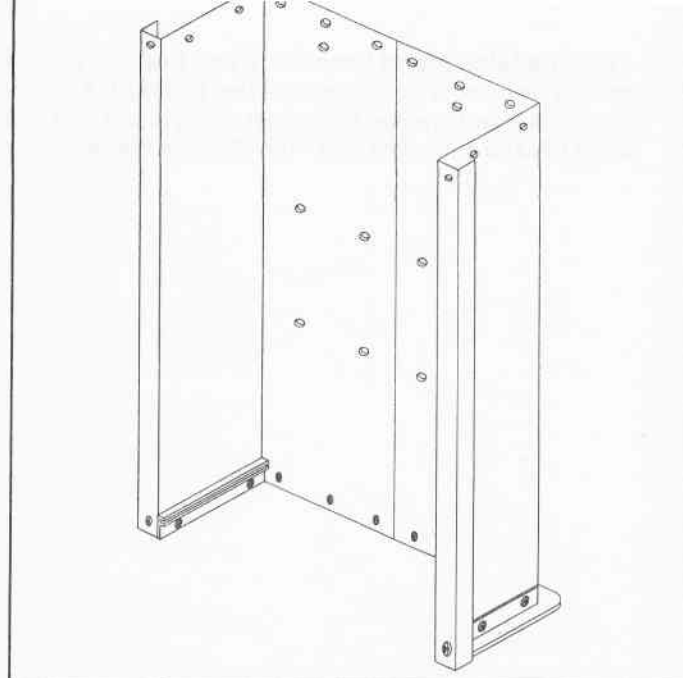

FIGURE 4
8. Carefully reverse the position of the cart so that it rests on the tailgate reinforcement bracket, as shown in figure 4.